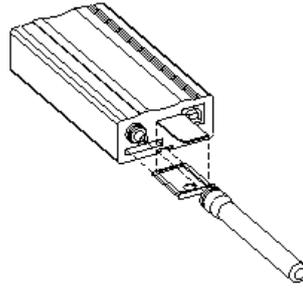

Figure 2-23 Install SIM card and Antenna
2. Install the SIM card and GSM MODEM antenna according to Figure 2-23.